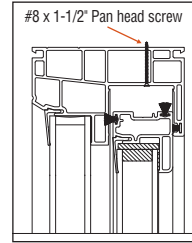

fig. 5
- a. Fasten the jambs through the interior pocket using a #8 x 2-1/2" Pan head screw. Drill a 1/8" pilot hole for each screw, centering the hole in the pocket of the frame, place the screws approximately 16" to 18" apart. Repeat steps for fastening the head. (**fig. 5**)